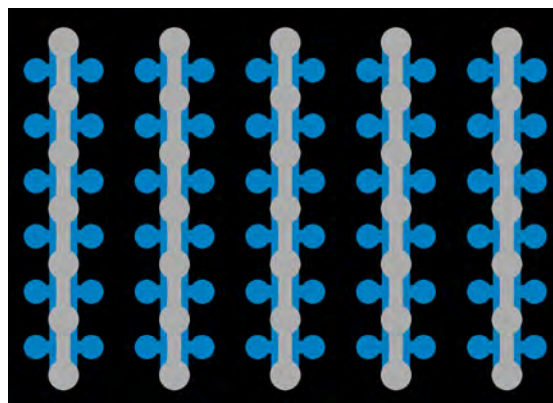

Figure 19: inner layer routing along the slot walls.
- Turn on the inner layers and route to vias along the slot walls using “route > connect” (Figure 19)